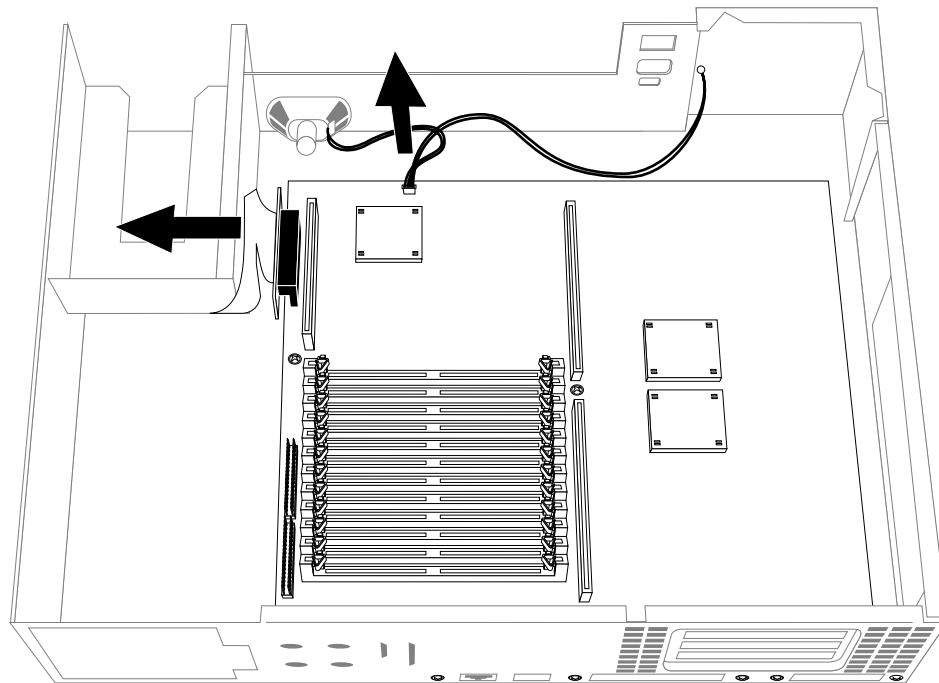

Figure 2-10 Disconnecting Cables From the IP22 System Base Board
13. Disconnect the speaker and power-switch wires, and the SCSI cable from the IP22 base board. See Figure 2-10.